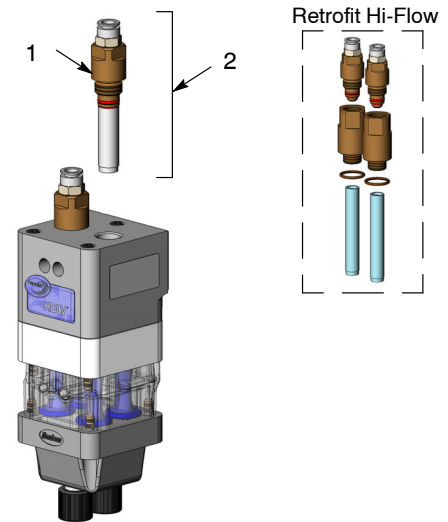

Figure 2 Removing Fluidizing Tubes
1. See Figure 2. Loosen the fluidizing tube access plug (1) and pull the fluidizing tube assembly (2) straight out of the pump body.